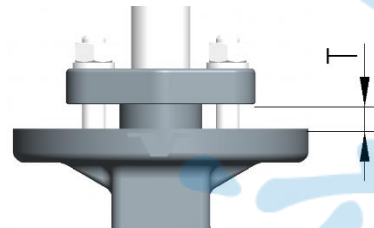

Fig.13-2
11.4.3 After the gland tighten, please reconfirm there is gap (see Fig 13-2) between gland and top flange. Please change the gland packing when “T” is lower than recommended dimension. (T is not less than 2mm)